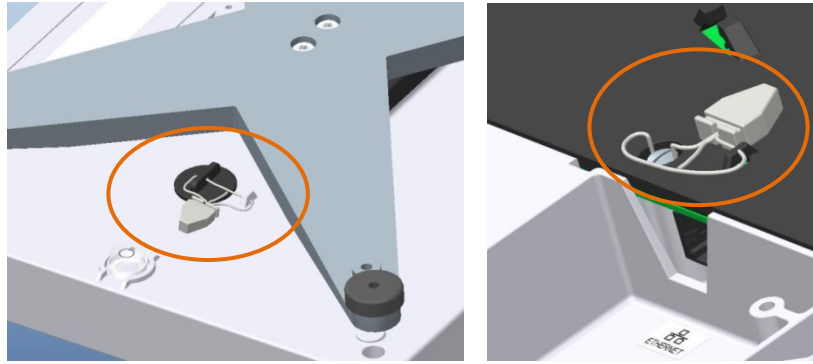

Figure 4-55: BC-60, -6L, -30 and -3L Sealing
1. The holding screw for the PCB cover on the bottom of the scale (left, in Figure 4-55).
2. The green cap and tab hole on the housing scale (right, in Figure 4-55).